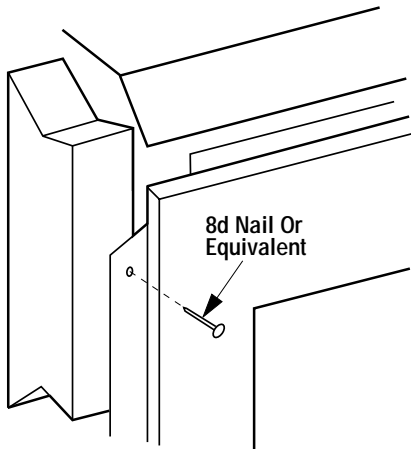

Figure 17
Step 4. Fireplace should be secured to side framing members using the full length nailing tabs at the top and bottom of the fireplace front face. Use 8d nails or equivalent (Figure 17).